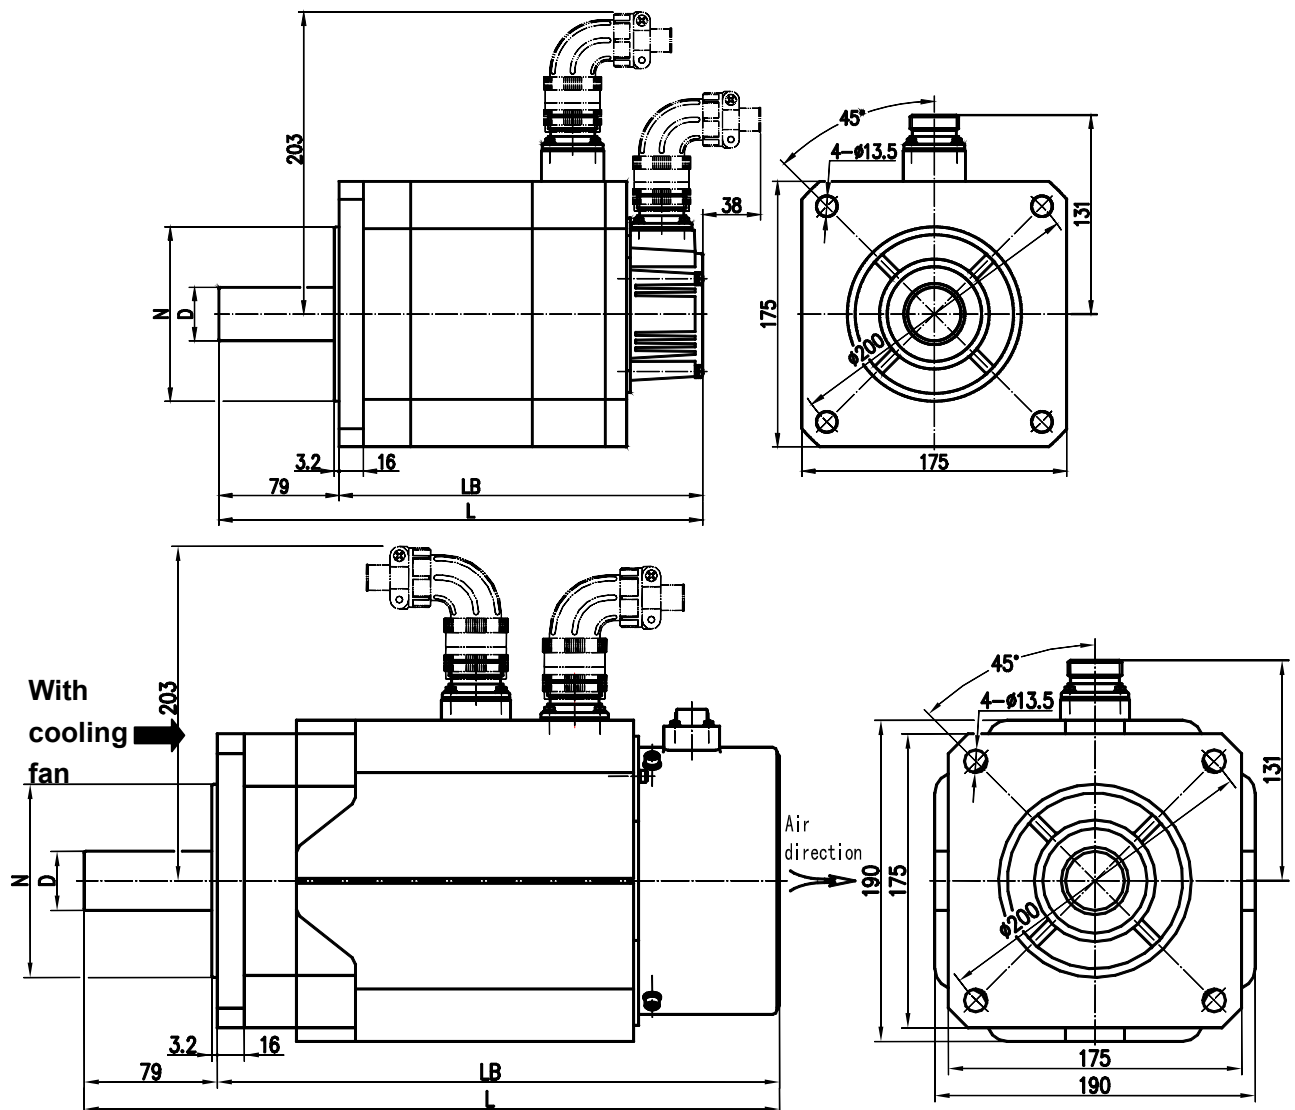

Fig.4
5.4 Refer to figure 4 and list 10 about 175SJT series motor overall installation dimension.